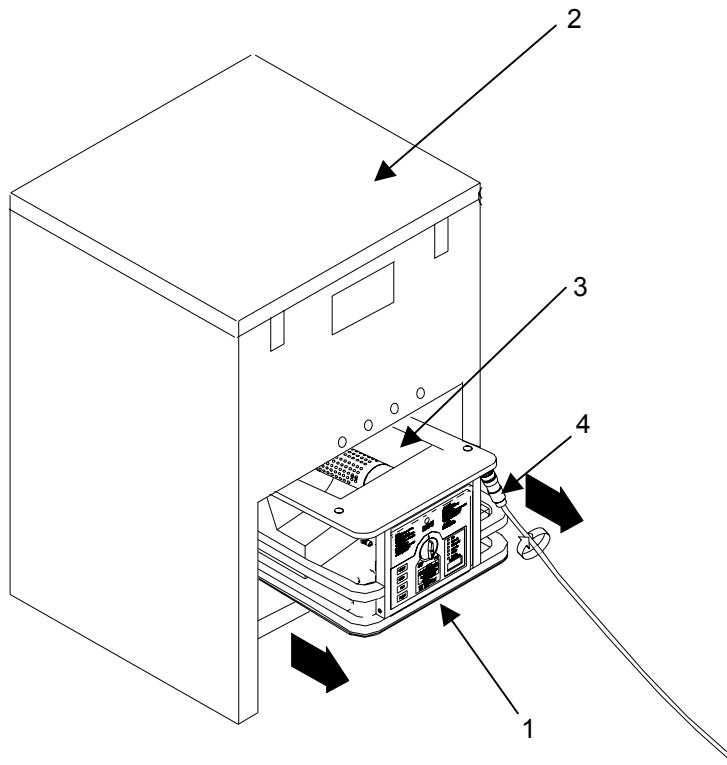

Figure 8. MBU Pre-operational Check
1. Slide the MBU (**figure 8, item 1**) halfway out of the appliance (**figure 8, item 2**).
2. Check the burner well (**figure 8, item 3**) for debris or the remains of spilled food.
3. Inspect interior of burner well (**figure 8, item 3**) for debris and clean as needed. Refer to WP 0009 00 for cleaning instructions.
4. Slide MBU (**figure 8, item 1**) back into appliance.
5. Be sure that the system cables (**figure 8, item 4**) are securely attached.